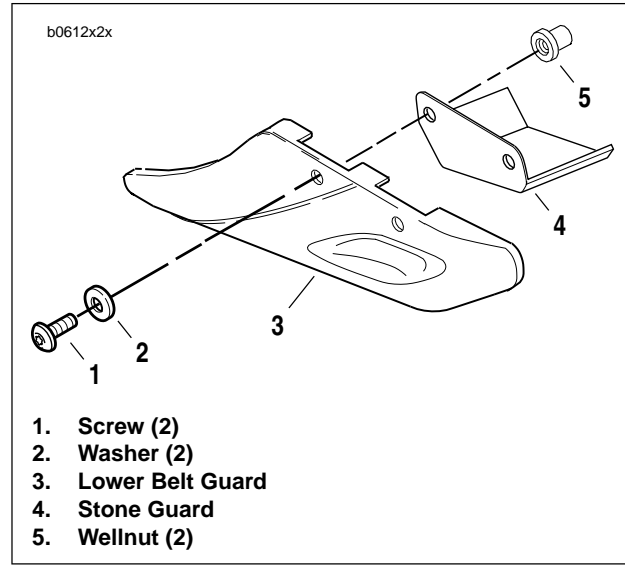

Figure 2-101. Stone Guard
1. See Figure 2-101. Remove two screws (1) and washers (2) securing lower belt guard (3) to swing arm.
2. Remove lower belt guard (3), stone guard (4) and well-nuts (5) from swing arm.
1. See Figure 2-101. Position stone guard (4) with wellnuts (5) and lower belt guard (3) on swing arm.
2. Secure with two screws (1) and washers (2).